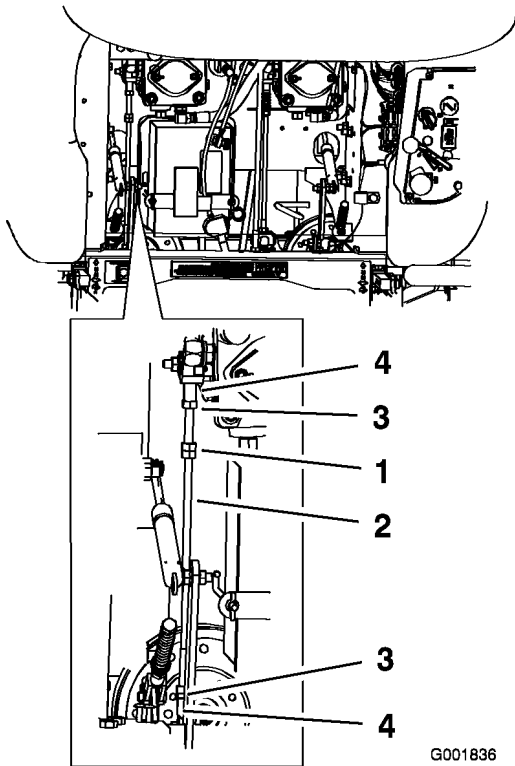

Figure 55
1. Loosen the locknuts at the ball joints on the pump control rod (Figure 55).
3. Adjust the pump rod length by rotating double nuts on the rod, in the appropriate direction, until the wheel is still or slightly creeps in reverse (Figure 55).
6. Tighten the locknuts at the ball joints (Figure 55).